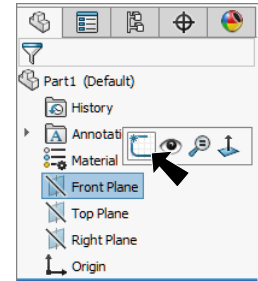

Fig. 1
- Step 2. Click **Front Plane** in the Feature Manager and click **Sketch** on the context toolbar, **Fig. 1**.
- Step 3. Click **Line** (L) on the Sketch toolbar.